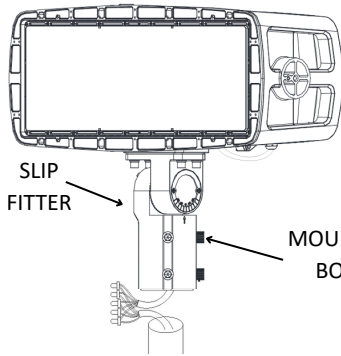

Fig. 4
2. Make the appropriate connections as per the wiring diagram on Page 4 (Fig. 4).